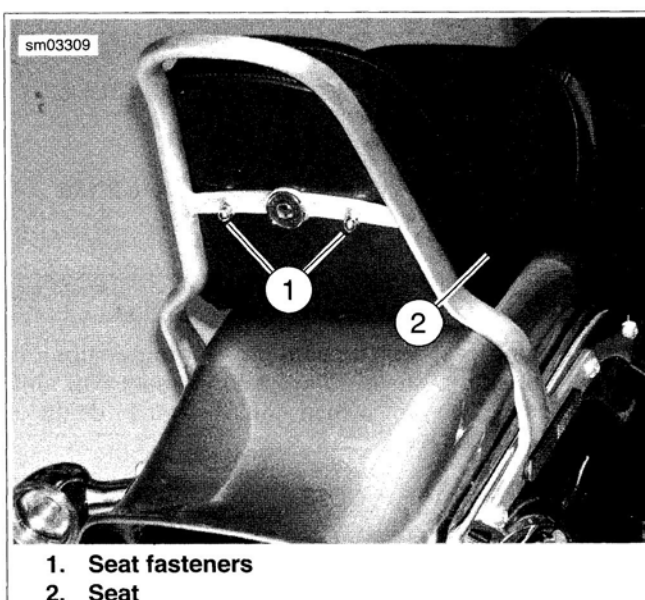

Figure 2-129. Seat: FXSTC
See Figure 2-129. Seat (2) attaches with two fasteners (1) through the sissy bar. When installing seat, insert tang at front of seat into the channel in the frame and install rear fasteners through sissy bar. Tighten fasteners to 60-80 in-lbs (6.8-9.0 Nm).